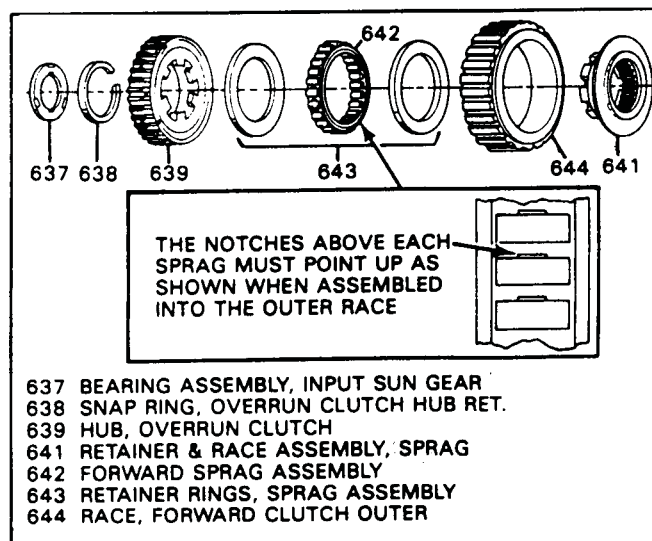

Figure 122
1. Disassemble and inspect the forward clutch sprag assembly (Figure 122).
6. Install the overrun clutch hub and the overrun hub snap ring (Figure 122).